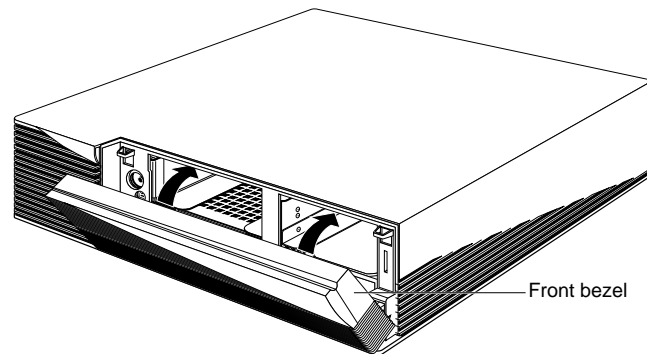

Figure 5-5 Replacing the Front Bezel on the Indigo² Chassis
- Placing the tabs on the bottom of the bezel in the grooves in the front of the chassis, as shown in Figure 5-5.